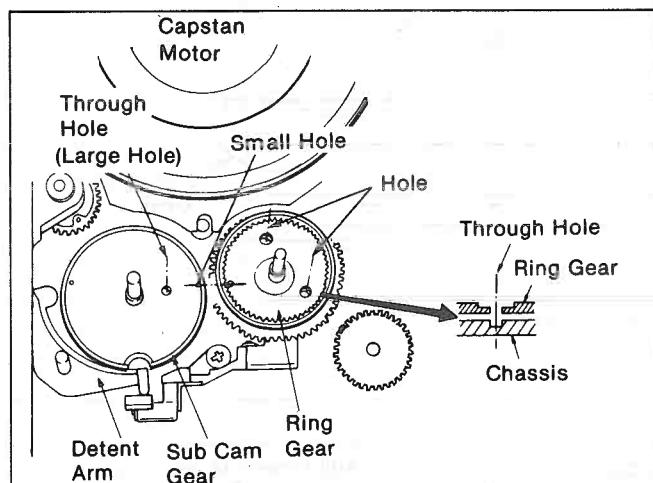

Figure M44
1. Install the Ring Gear so that the two holes in the Ring Gear align with the two holes in the chassis as shown in Figure M44.
2. Install the Sub Cam Gear so that the large hole in Sub Cam Gear is aligned with the hole in chassis. Also the small hole (located just outside of large hole) on Sub Cam Gear should align with the hole on Ring Gear as shown in Figure M44.
3. Install the Detent Arm and make sure Detent Arm seats perfectly in detent of Sub Cam Gear as shown in Figure M44.